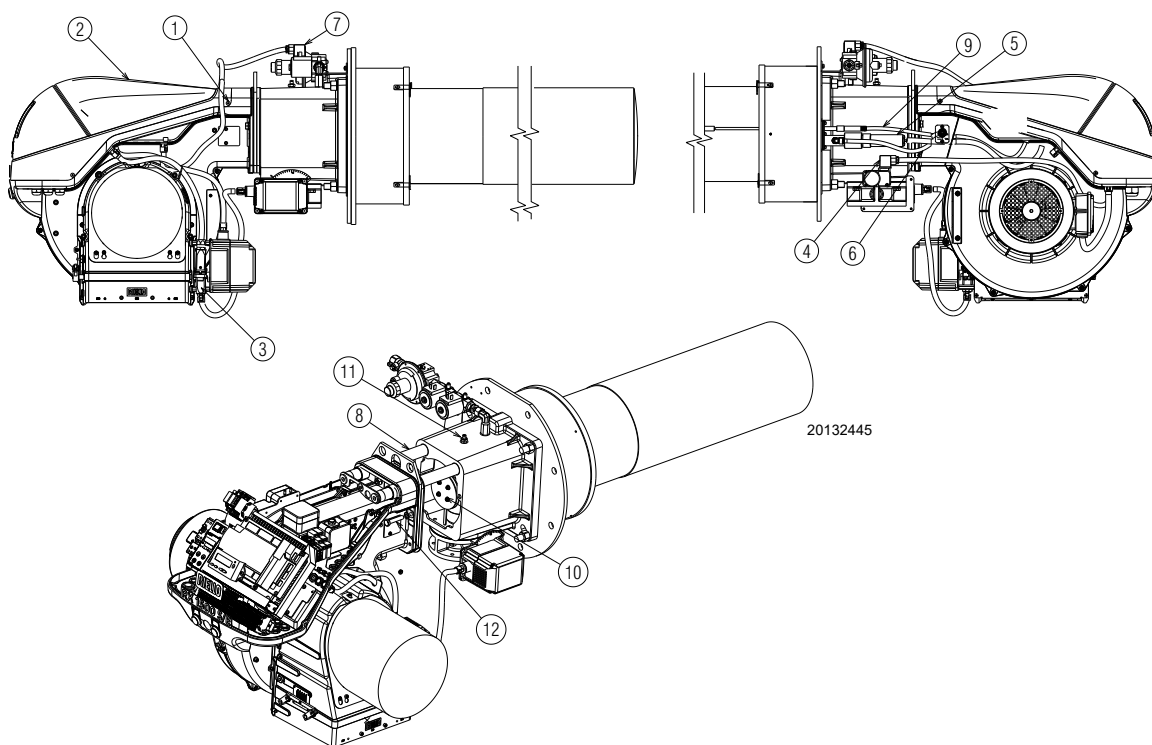

Fig. 41
- unscrew the screw/pressure test point 1)(Fig. 41);